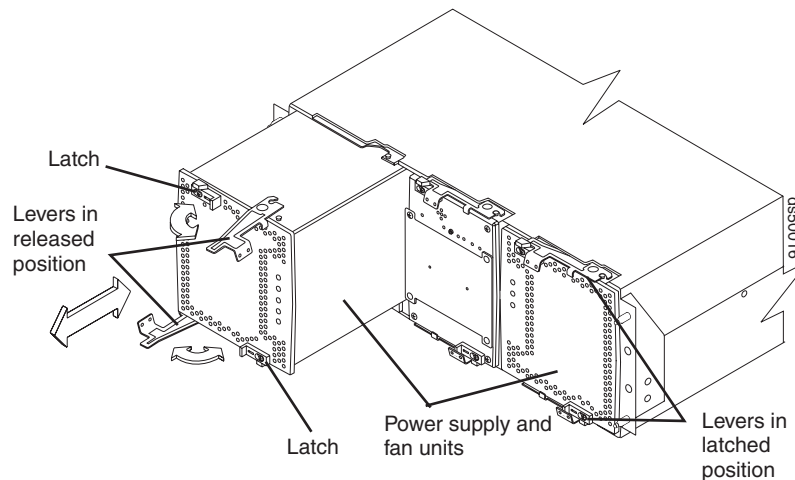

Figure 117. Removing a power supply and fan unit from the DS5100 and DS5300
9. Unlatch the top and bottom levers on the failed power supply and fan unit. Rotate both levers out simultaneously and remove the failed power supply and fan unit. (Figure 117 shows a power supply and fan unit sliding from the storage subsystem chassis.)